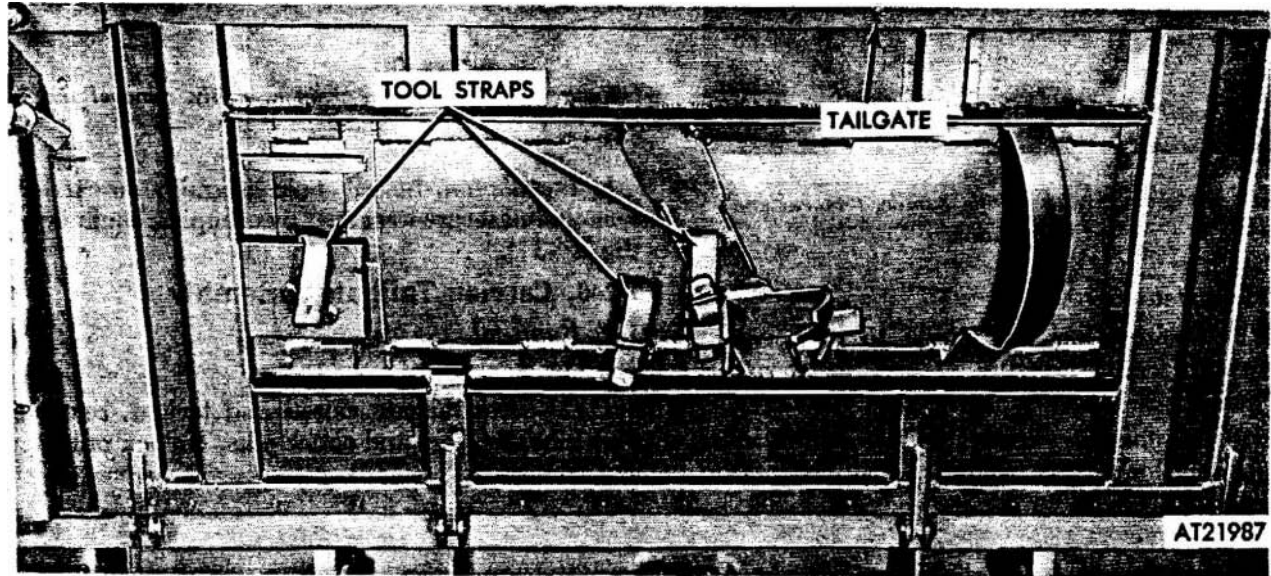

Figure 2-335. Pioneer tool straps, removal and installation.
a. Removal. Remove defective straps from pioneer tool rack (fig 2-335).
b. Installation. Install tool strap to retaining clip on axle sheath, strap to retaining clip on cross member, and tool strap to retaining clip on lower angle of pioneer tool rack (fig 2-335).